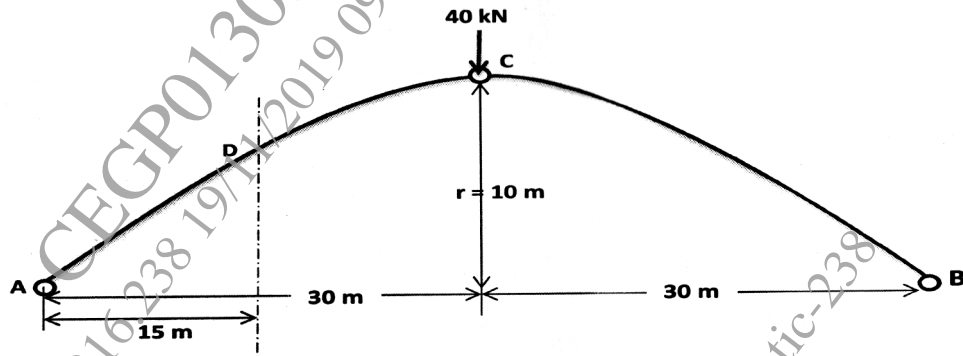

Fig. 10
6. (a) A two hinged parabolic arch has a span of 60 m and a central rise of 10 m. It is subjected to a central point load of 40 kN at C as shown in Fig. 10. The second moment of area varies as the secant of the inclination of the arch axis. Determine the horizontal thrust developed and the reaction at the hinge